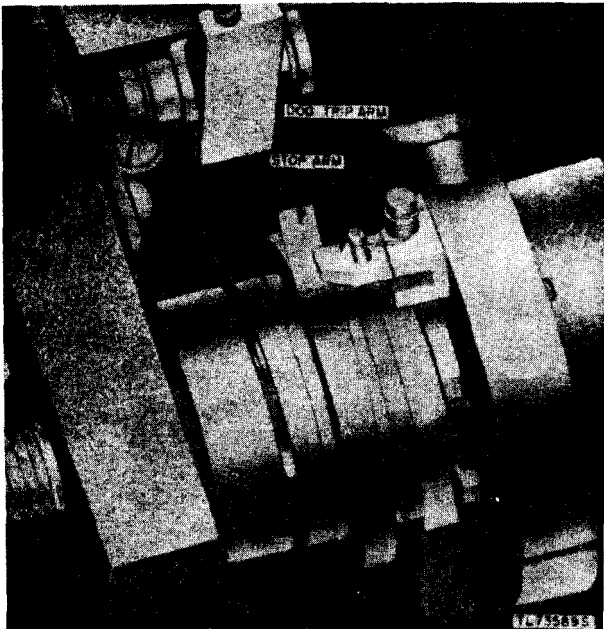

Figure 20. Clutch assembly, phasing completed.
- (2) If the drum stops, repeat the starting operation. When the light shines on the white phasing spot of the phasing ring, phasing pulses are transmitted. This is indicated by a flicking of the DB METER each time the light shines on the phasing spot. Look through the clutch window and make sure the drum is driven by the stop arm driving the dog trip arm (fig. 20). This condition should take place automatically after 5 to 10 revolutions of the drum. If the stop arm is not driving